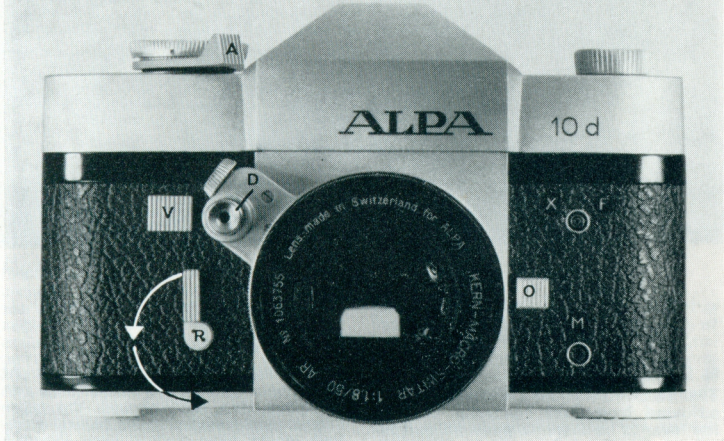

Fig.2
Located on the front of the ALPA 10d (Fig. 2) the hair-trigger release instantaneously operates the quiet, lightning-fast reflex-mirror and smooth-gliding, vibration-free shutter. Press your thumb against the camera back in the opposite direction, so as to hold your ALPA as steadily as possible. The conical thread inside the release button accepts a cable release (see page 21). All lenses with automatic diaphragm have integrated release buttons, which in turn depress the release button on the camera. The flip-up reflex-mirror immediately returns to its normal position, after the shutter is closed, even if you keep the release button depressed. Any vibration you may feel is caused by the flipping down of the mirror, which has no longer any influence on the sharpness of the picture.
The shutter release lock (V Fig. 2)
The built-in selftimer (R Fig. 2) can be adjusted from 1-20 seconds. Turning the lever to its extreme position corresponds to a delay of approximately 20 seconds. If moved 90° only, the delay will be about 6 seconds.
The extremely gentle release by the selftimer permits vibration free exposures, especially useful at slow shutter speeds. If for any reason a picture is not taken after the selftimer has been set, simply lock the release button (V Fig. 2), then keep the release button depressed until the lever (R) returns to its original position.
The upper X and F contact (Fig. 2) is for synchronization with electronic flash at shutter speeds up to 1/60 second. If you try faster speeds, only
The lower M contact (Fig. 2) is for synchronization with class FP bulbs for focal plane shutters. They have a long peak that gives uniform illumination over the entire image, at most shutter speeds.
All ALPA lenses are supplied in snug fitting, quick-change bayonet mount. Depress the lens lock button (Fig. 2),